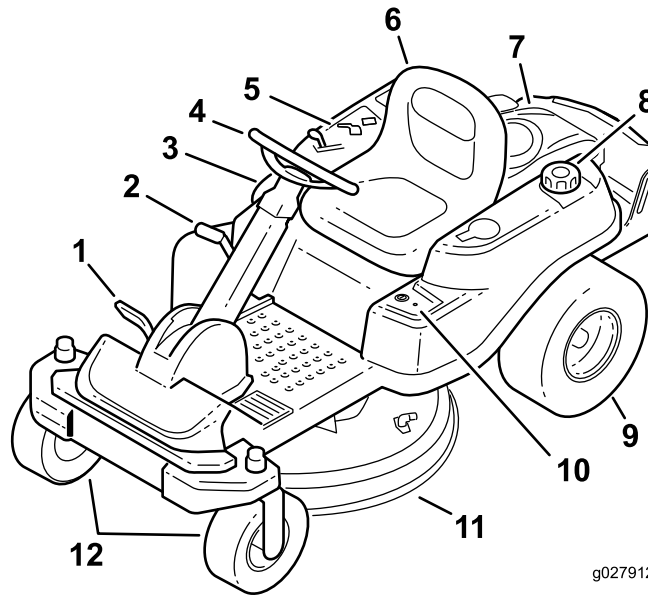
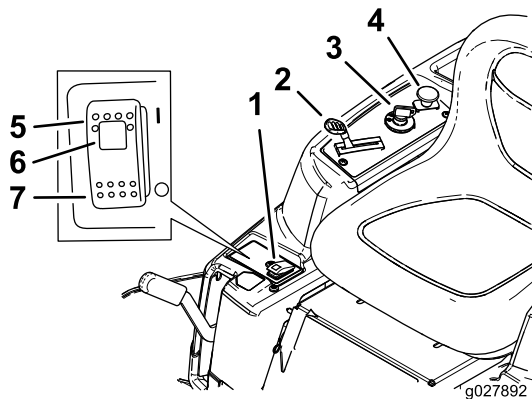
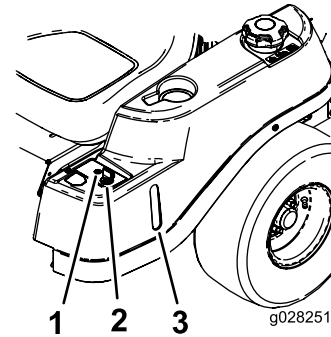

Figure 4
Figure 5
Figure 6
Become familiar with all controls in Figure 4, Figure 5, and Figure 6 before you start the engine and operate the machine.
The ignition switch has 3 positions—Off, Run and Start. The key will turn to Start and move back to Run upon release. Turning the key to the Off position will stop the engine; however, always remove the key when leaving the machine to prevent someone from accidentally starting the engine (Figure 5).
variable setting from Slow to Fast. Engage the choke by moving the lever past the Fast setting until it stops (Figure 5).
The blade-control switch, (PTO), engages and disengages power to the mower blades (Figure 5).
The fuel window located on the left-hand side of the machine, can be used to verify the presence of gasoline in the tank (Figure 6).
This switch allows you to mow in reverse when it is activated. To activate it, turn the switch to on and release it after the PTO is engaged. To deactivate it, disengage the power take-off (PTO) (Figure 6).
The Operating-in-Reverse warning light will illuminate whenever the KeyChoice key is used to deactivate the operating-in-reverse interlock. It is a reminder that the interlock system is deactivated. The light goes out whenever the PTO is disengaged or the engine is shut off. When the light is on, look behind and use extra caution when backing (Figure 6).
- Pressing the SmartPark™ switch to the On position (Figure 5).